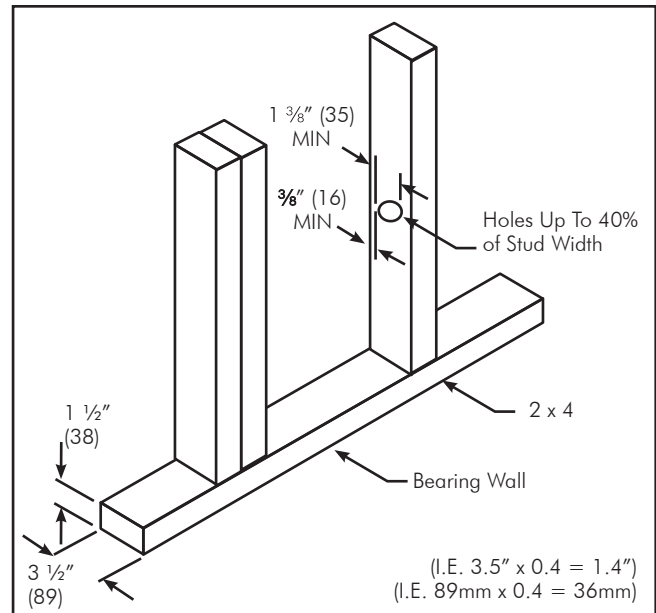

FIG. 4-9 Holes In Load Bearing Walls
- Where holes are to be bored in load bearing vertical member of the wall framing, the size of such holes shall not be larger than 40 percent if the members are doubled. **No more than two successive double bored members are permitted** (See **FIG. 4-9 Page ??**).